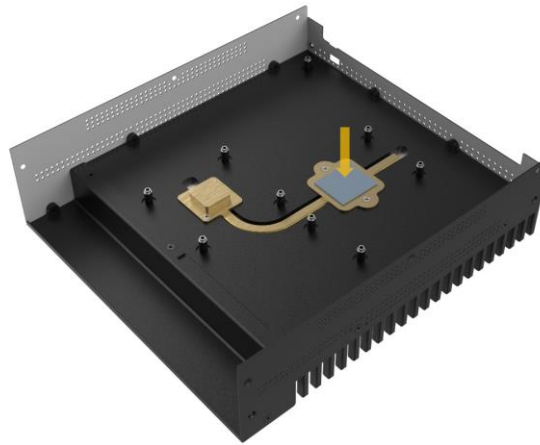

Figure 3-4: CPU Thermal Pad Installation
Step 3: Place a thermal pad on the heat conductive block of CPU (Figure 3-4).